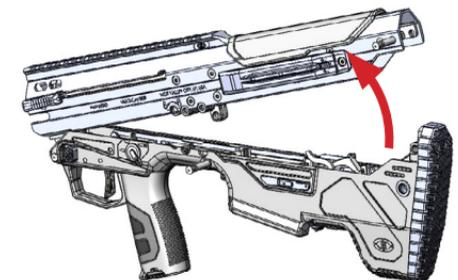

Fig. a-5 25
- Press the captured rear and middle takedown pins out from the right to the left and tilt the rear of the upper receiver up. (Fig. a-5)
**Note:** Ensure the caliber on the bolt head matches the barrel you have installed. (page 12, Fig. a-5)